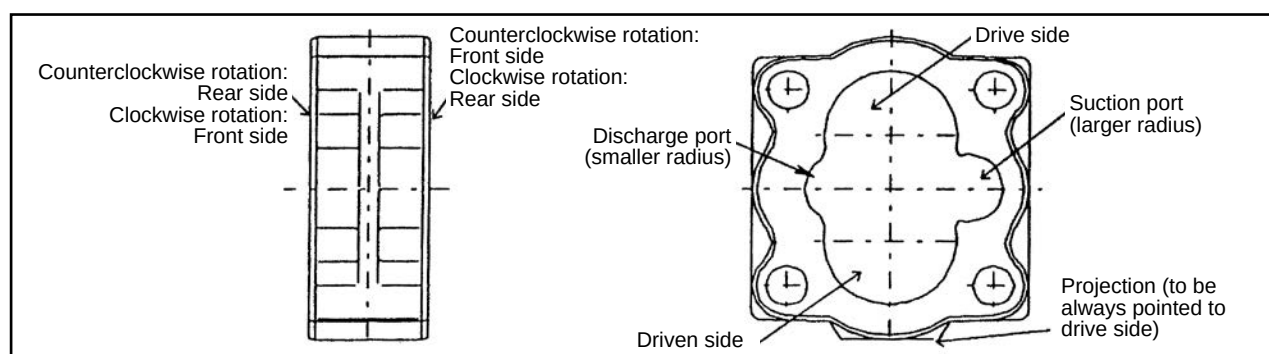

Fig. 7.34
- ④ Install the pump body on the front cover, referring to Figure 7.34.